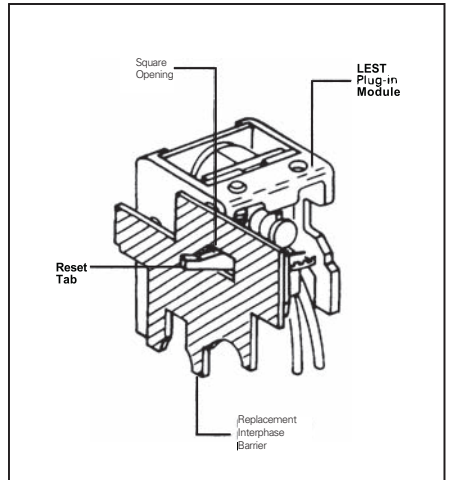

Fig. 2-6. LEST and Interphase Barrier Installation (Thermal magnet circuit breakers only).
- f. Put tip of LEST reset tab through square opening in replacement interphase barrier. (See Fig. 2-6.)